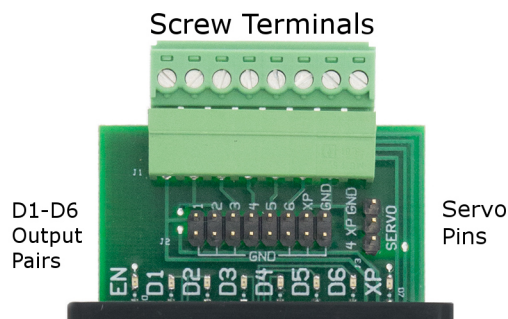

Figure 1 DCU output connectors
- To connect to the header pins, use header connectors or small alligator clips to attach the leads of your device to the appropriate pins. One row of header pins connects to the D1–D6 lines while the other row of pins connects to ground, as shown in Figure 1. This minimizes crossing wires when connecting two-lead devices such as motors.